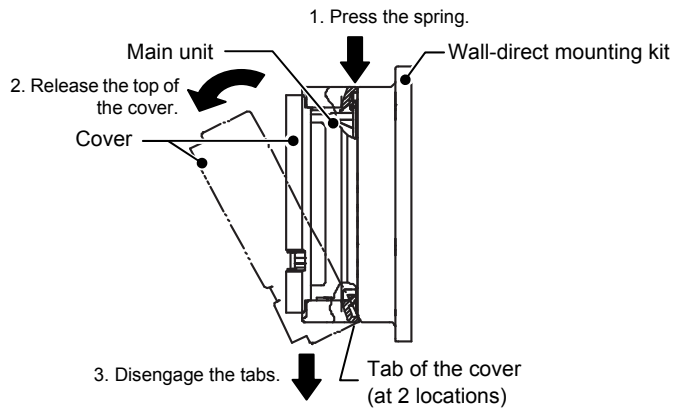
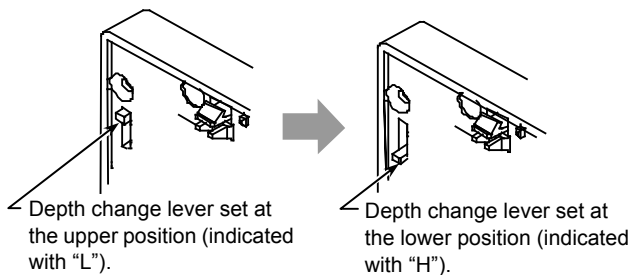

Figure 9. Cover removal
Figure 12. Depth change: Setting the depth change lever
- 4) Remove the cover of Neosensor as shown in Fig. 9, and check that the depth change levers on the bilateral sides of the Neosensor main unit are set at the upper position (indicated with "L" shown in Fig. 12). Then, mount the main unit of Neosensor on the main unit of the Wall-direct mounting kit with the 4 mounting screws (M3 × 16) supplied with Neosensor.
- 5) Attach the cover back to the Neosensor main unit and complete the installation. (See Fig. 9.)
- 5) Remove the cover of Neosensor as shown in Fig. 9, and check that the depth change levers on the bilateral sides of the Neosensor main unit are set at the upper position (indicated with "L" shown in Fig. 12). Then, mount the main unit of Neosensor on the main unit of the Wall-direct mounting kit with the 4 mounting screws (M3 × 16) supplied with Neosensor.
- 6) Attach the cover back to the Neosensor main unit and complete the installation. (See Fig. 9.)